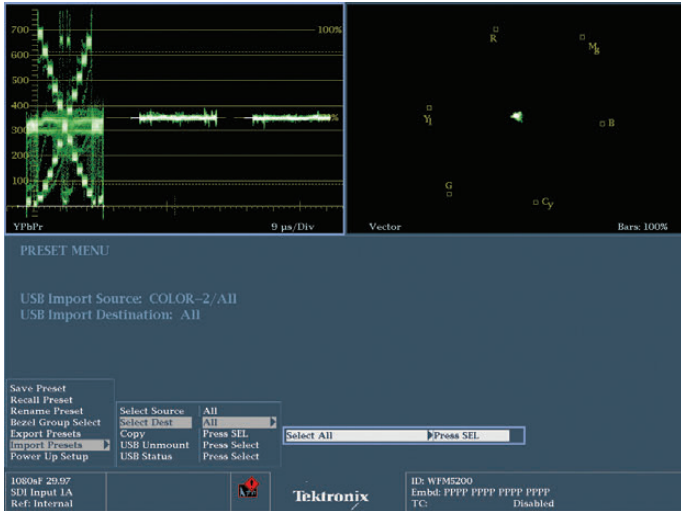

Figure 6-21. Configuring of copying presets.
10. Use the down arrow to move down to the next option and choose Select All (Figure 6-21).